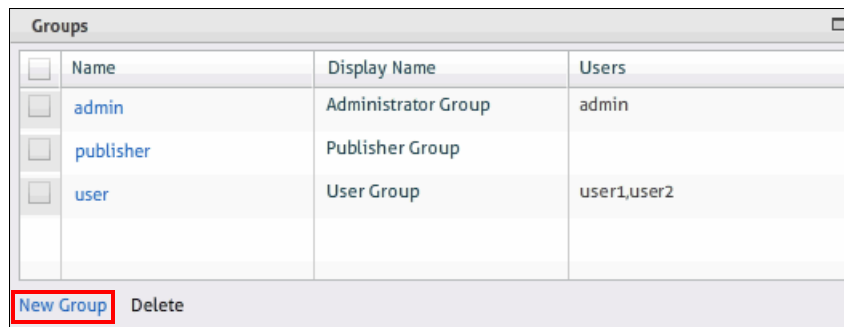

Figure 5-12 Create new group
2. In the Groups section pane, click **New Group**, as shown in Figure 5-12.